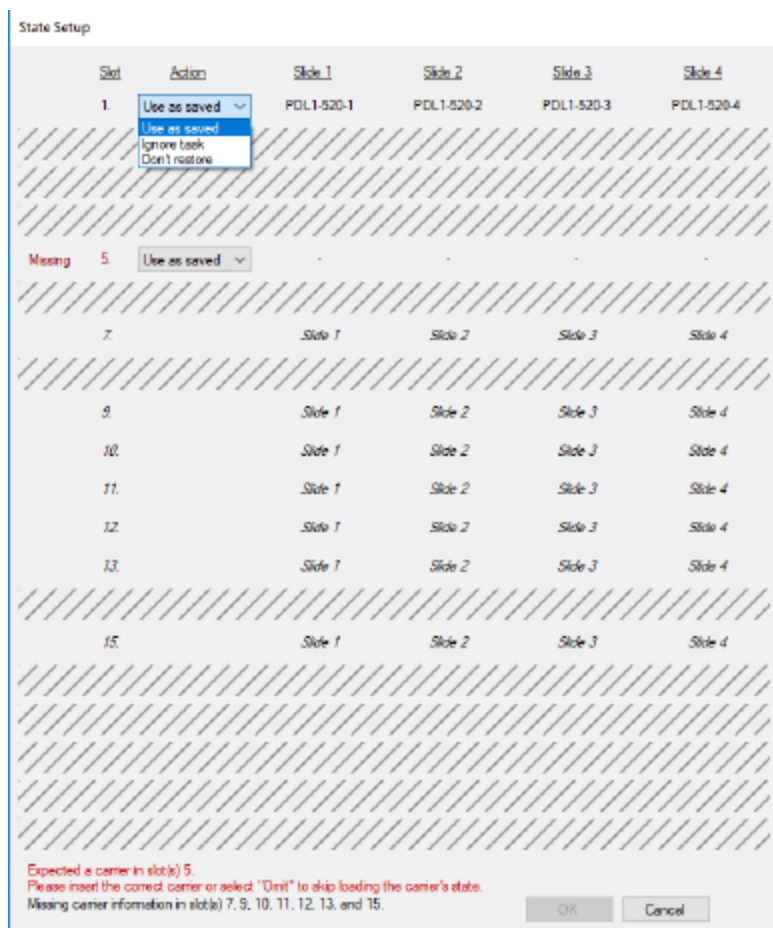

Figure 70. Slide Setup
1. When scan information is available and a carrier is present in the hotel, the system will show the slide IDs (slot 1 in Figure 70).